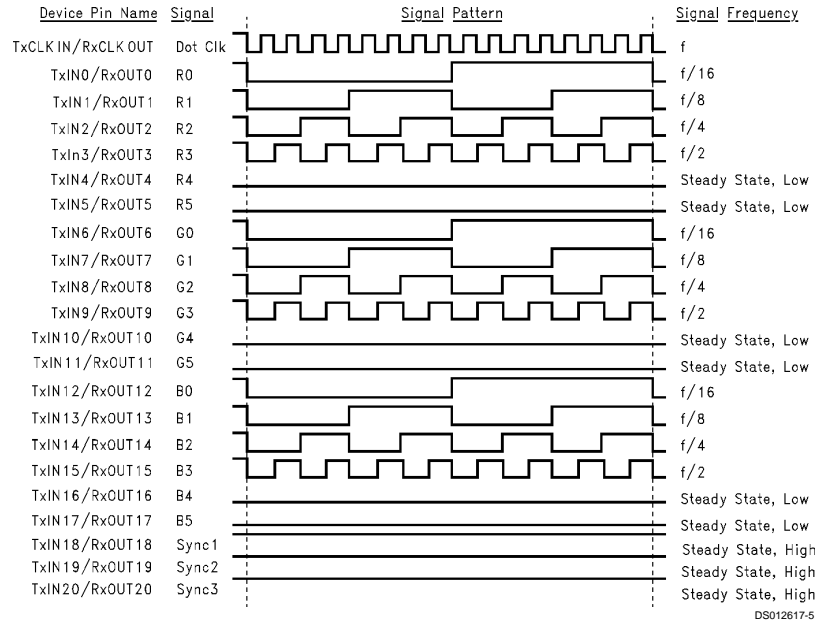

FIGURE 2. "16 Grayscale" Test Pattern
**Note 9:** Figure 1 and Figure 2 show a falling edge data strobe (TxCLK IN/RxCLK OUT).